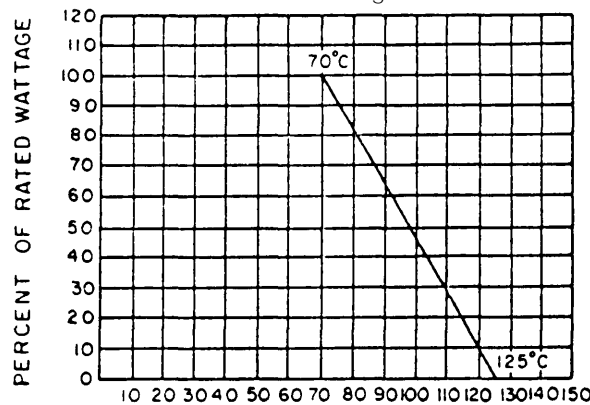

FIGURE 209-1. Derating curves for high ambient temperatures.
2.1.3 Derating at high temperature. These resistors may be used at the full nominal wattage at an ambient temperature of +70°C. When a resistor is to be used where the surrounding temperature is higher than +70°C, a correction factor must be applied to the wattage rating so as not to overload the resistor. This correction factor may be taken from the derating curve shown on figure 209-1.